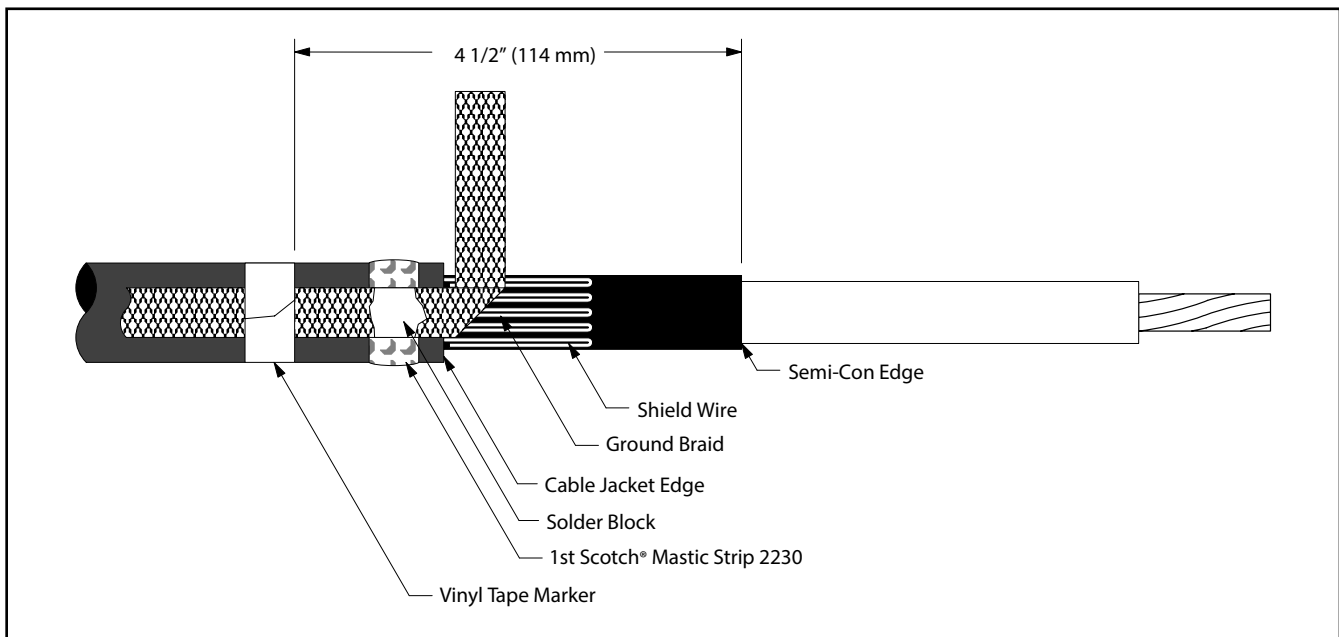

Figure 11
- 8.2 Position pre-formed ground braid with short tail over wire shield directly adjacent to cable jacket cut edge. Position long tail of ground braid, extending over cable jacket with solder block over mastic strip (Figure 11). Secure ground braid to cable jacket 4 1/2" (114 mm) from cable semi-con edge using vinyl tape (Figure 11).